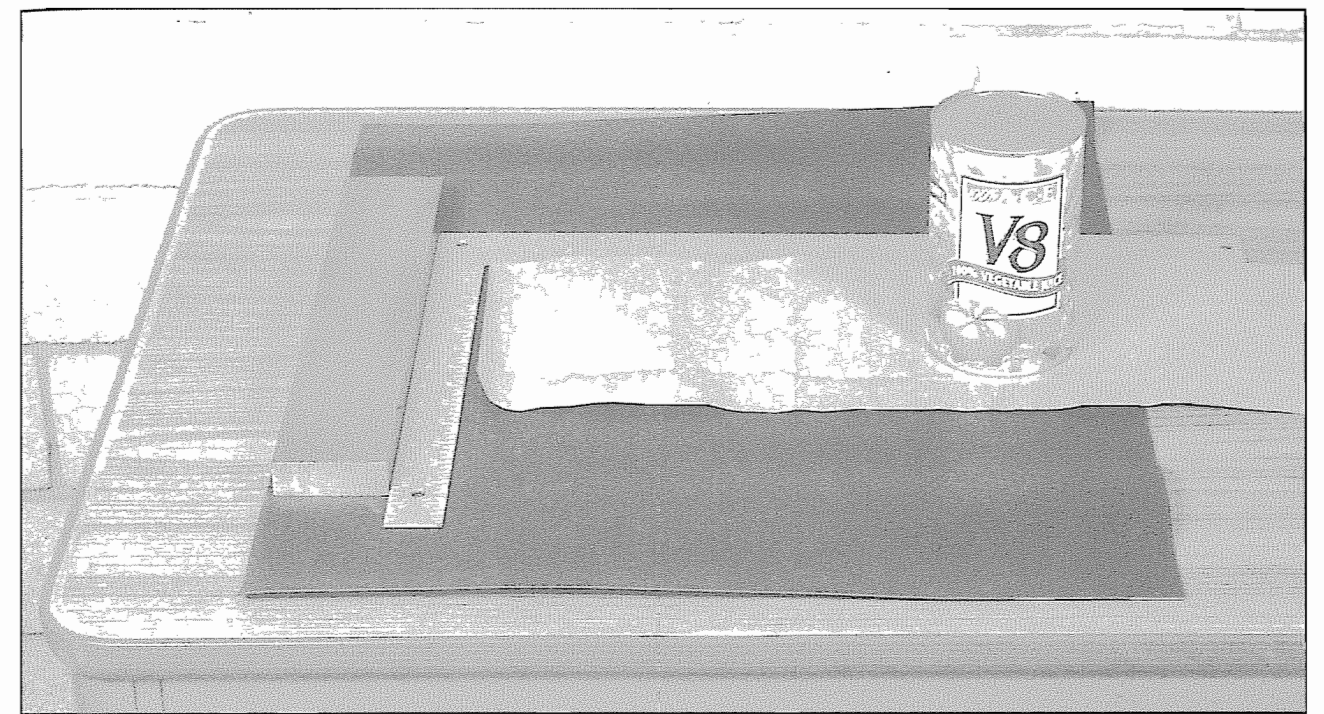

**Figure 8-5.** Small bits of debris are scraped away with a putty knife.
2. Lay the sheet on *two* layers of newspaper, and using the paint roller and a paint roller tray, coat one side with the **GLUE SOLUTION** (**Figure 8-4**). The coating needn't be thick, but it must *completely* cover the paper (i.e. no bare spots). Lift the glue-coated sheet off the newspapers, *discard the newspapers*, and set it aside to dry. When it is *thoroughly* dry, turn it over. Lay it on two *fresh* sheets of newspaper, coat the opposite side in the same manner, and let it dry again. Then inspect the both sides of the paper carefully. As the glue dries, leaves, insects, dirt, and other debris can become trapped in the glue. If you see anything in the dried glue, scrape it off with a putty knife (**Figure 8-5**). Then cut the paper into two 8-1/4"-wide x 36"-long strips.